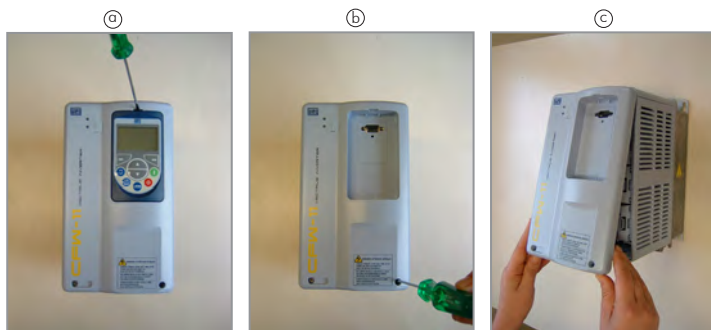

Figure 2: Removal of front cover
- Step 1:** With the inverter powered off, remove the frontal cover of the inverter (figure 2);